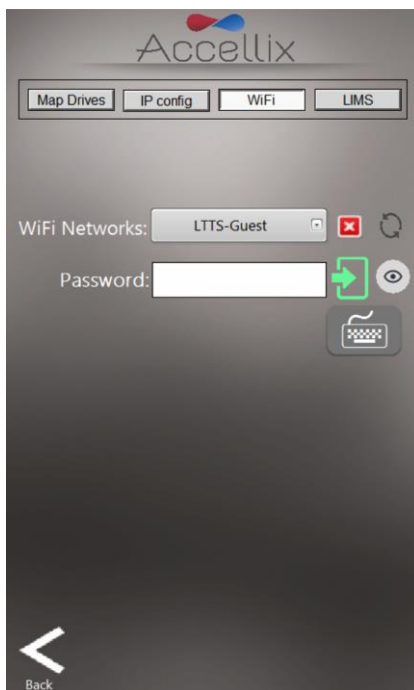

Figure 27: Network Screen: Wi-Fi tab
3. The WiFi tab (Figure 27) used to connect to a WiFi network. To connect: